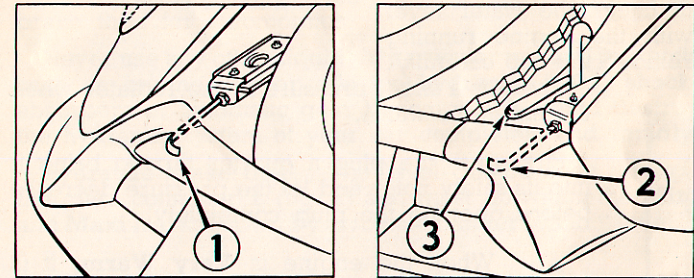

Figure 1
- Release the right and left hood safety catches by passing both hands through the opening in the bumper on each side of the licence plate and pull handles **1** and **2** (fig. 1).
- Lift the hood slightly with your left hand release it completely by passing your right hand between the hood and the bumper, on the right-hand side of the licence plate, then press lever **3** (fig. 1).